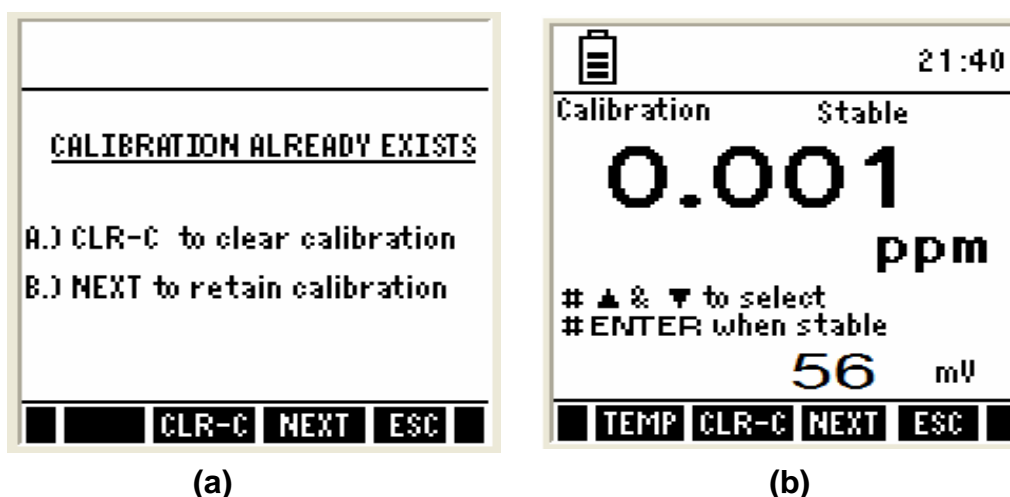

Figure 46 : Ion calibration screens
3. The meter shows 'Calibration-Rinse Electrode' screen [Figure 41-(a)] few seconds and then shows the Ion calibration screen [Figure 46-(b)]
Note: If there is an existing ion calibration in the meter, you will be given two options. [Figure 46-(a)]